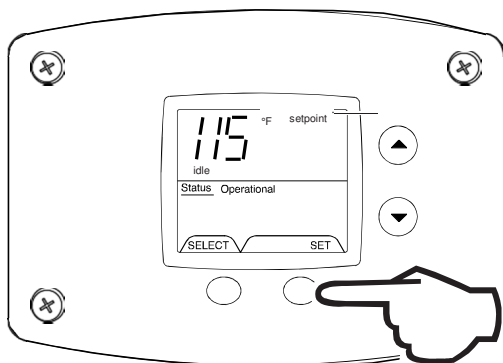

Fig. 52
2. Press the 'Set' button to enter the setting mode. 'Setpoint' will flash in the water heater display (Fig. 52).